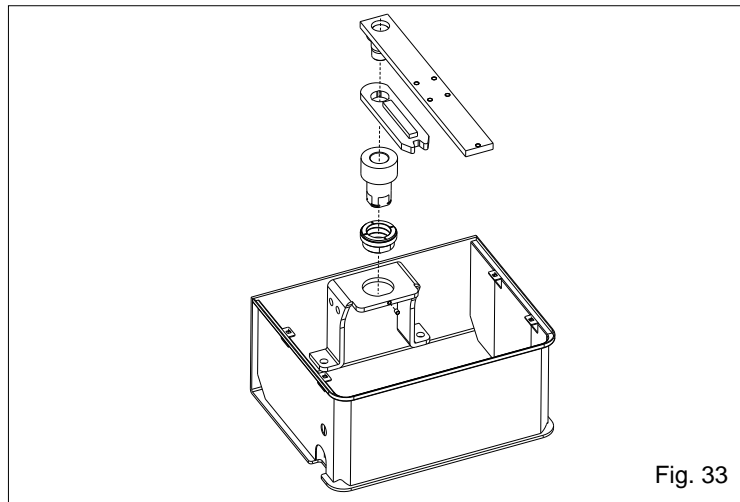

Fig. 33
10.4. Introduce the buckle of creeping in the box and fix it with the special screws (Fig. 33).
10.5. Insert the units as in Fig. 33.